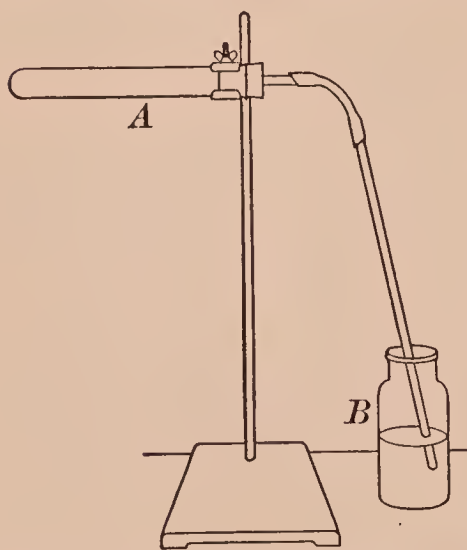

FIG. 12. — Apparatus for reducing copper oxide with carbon
**APPARATUS.** — As in Fig. 12, lens.
Grind together in a mortar about 5 gm. of copper oxide and 1 gm. of powdered wood charcoal. Put the mixture on a creased paper (refer to Figs. 4, 5) and slip it into the test tube *A*. Fill the bottle *B* half full of calcium hydroxide solution. Arrange the apparatus as in Fig. 12.